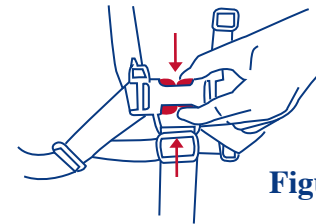
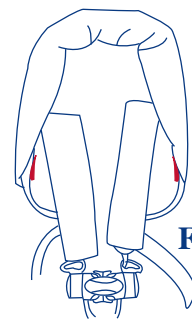

Figure 12b.
Figure 12c.
- To release, apply pressure to both sides of each male clip until the clip is released. See figure 12b. This process requires a moderate amount of effort so as to prevent an accidental release by your child. The jogging stroller also comes with a removeable head support, attached by 2 hook and loop fasteners. See figure 12c.